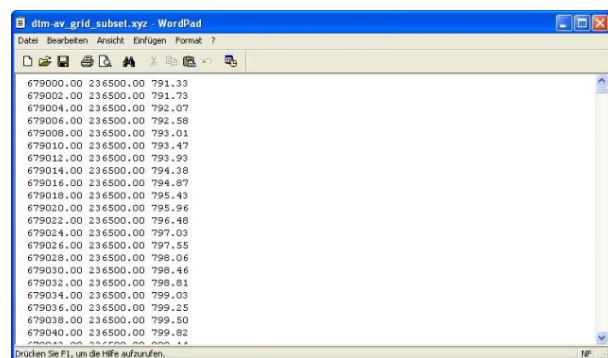

Figure 3.2: Example ASCII X, Y, Z single space data.
- ASCII X, Y, Z regular, single space data (Figure 3.2, irregular data is not supported!)